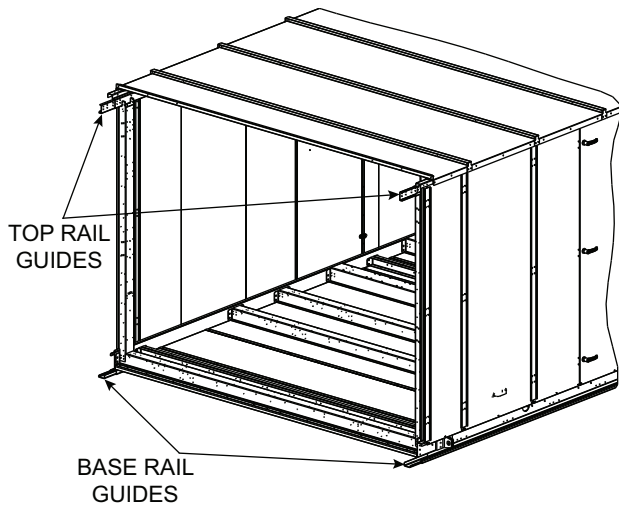

Fig. 33 — Base and Top Rail Guide Locations
4. Insert base rail guides into the base rails of the main unit section. Do not attach with screws yet. See Fig. 33 and 34.